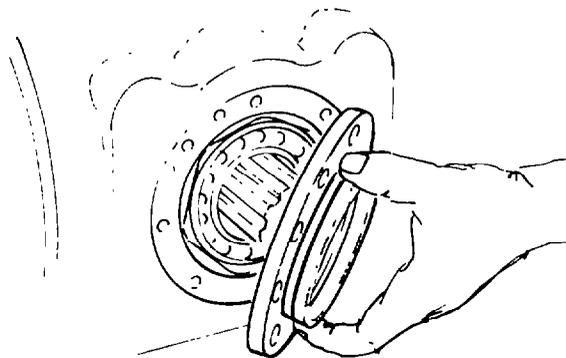

Fig. 281 — Removing Bearing Retainer Cover
- f. Place the bevel pinion housing on a work bench and remove the bearing retainer cover and gasket (see fig. 281).